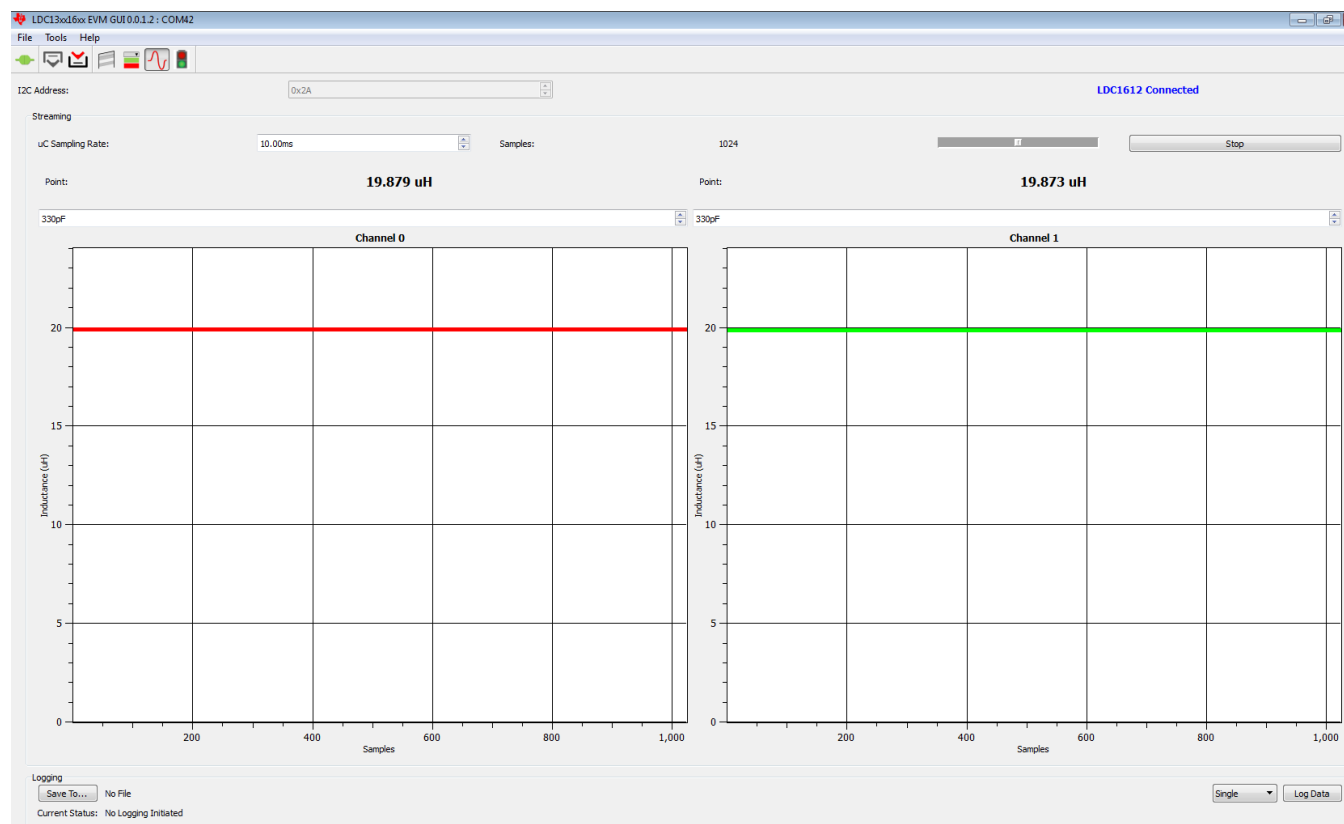

Figure 6. Streaming Data from Two Channels
- The data will update in the graph shown in Figure 6: Zoom into each tab if needed by right clicking on it and selecting "Zoom to".